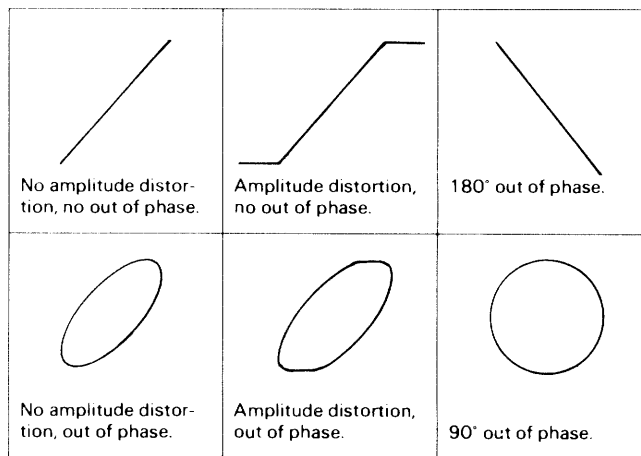

Fig. 34
7. Some typical results are shown in Fig. 34. If the two signals are in phase, the Lissajous' pattern is a straight diagonal line. If the vertical and horizontal gain are properly adjusted, this line is at a 45° angle. A 90° phase shift produces a circular Lissajous' pattern.